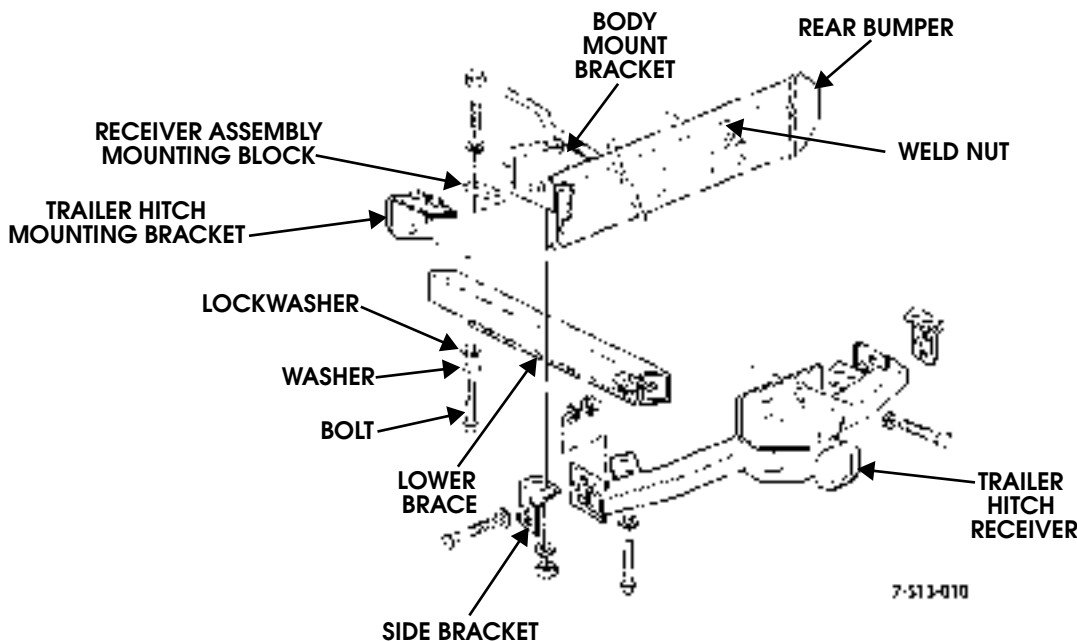

Figure 13-45: Trailer Hitch
- Remove locknuts, washers, receiver assembly mounting blocks, bolts, and washers from body mount bracket (Figure 13-45).
- Position trailer hitch receiver on rear bumper and secure with weld nuts, bolts and washers (Figure 13-45). Do not tighten at this time.